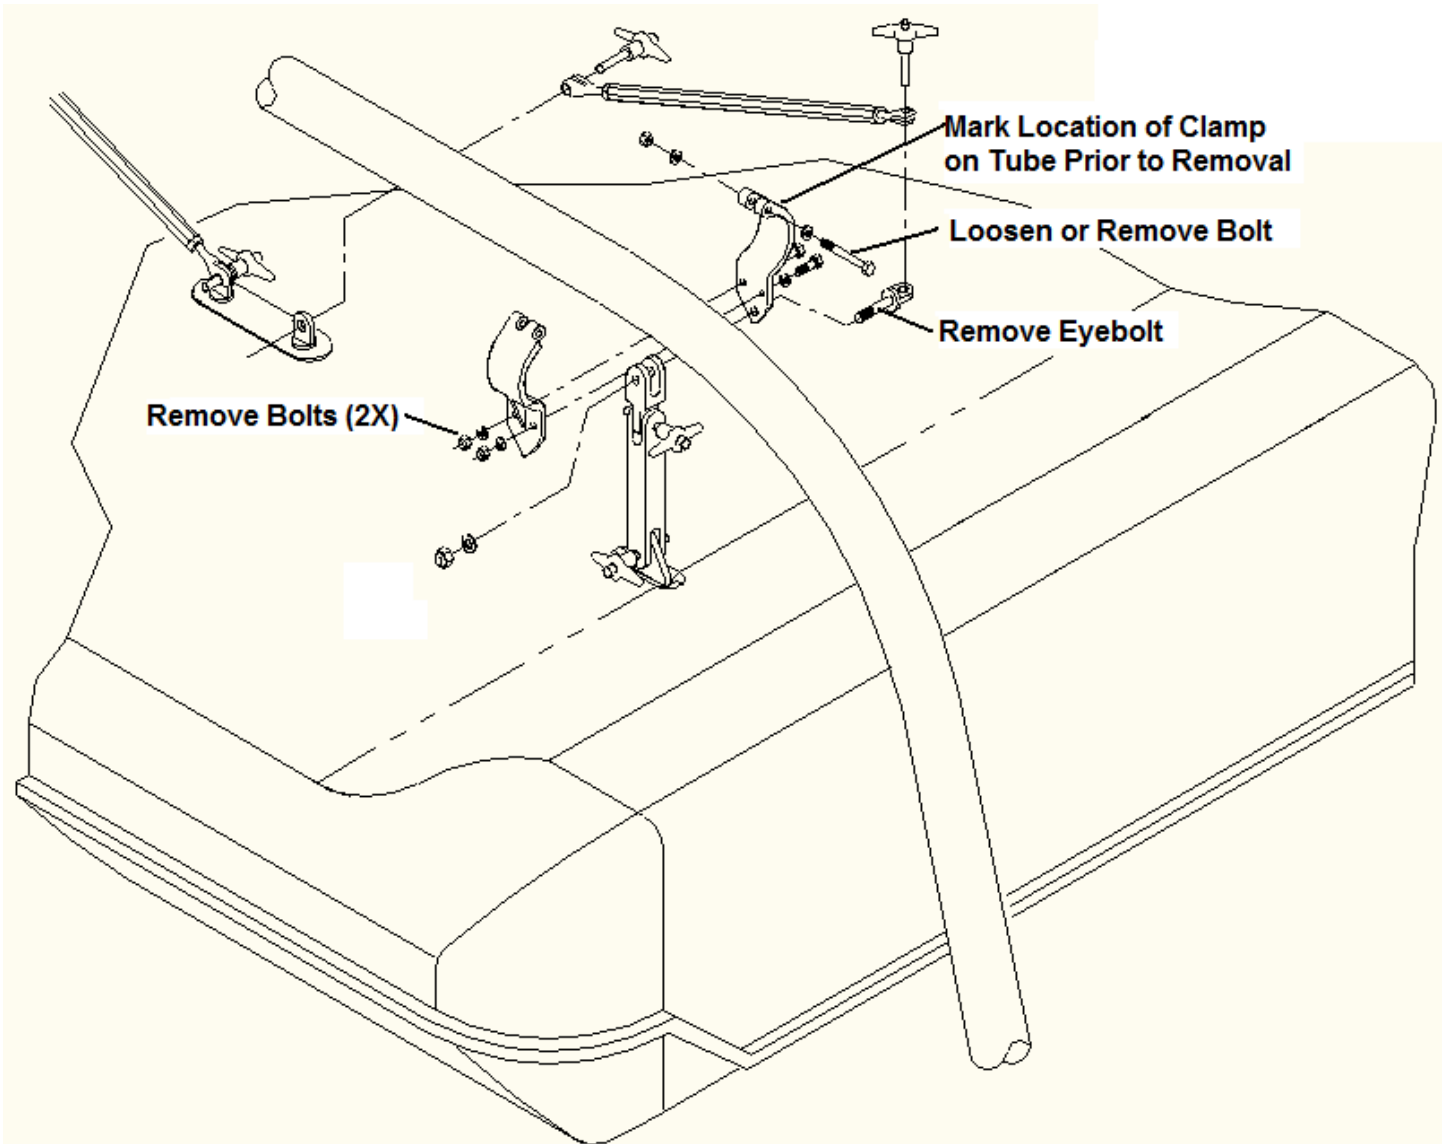

Figure 2: Aft Tank Attachment Details (Typical)
3. Mark position of aft attachment clamps on rotorcraft cross tube (Figure 2).
5. Remove bolts, eyebolt, washers and nuts shown in Figure 2 securing clamp to rotorcraft and discard.
26. Ensure eyebolts are aligned with eyebolt in upper clamp shown in Figure 2 prior to sealing.